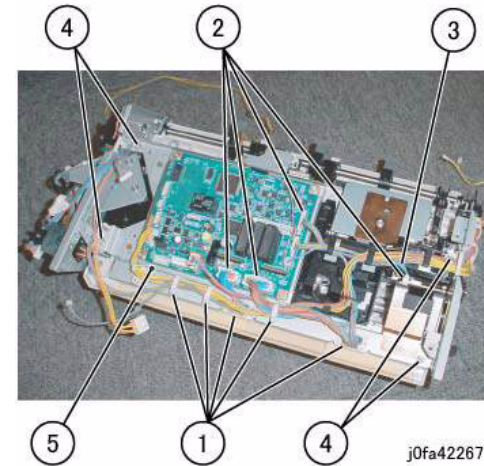

Figure 2 Removing the Bottom Plate
6. Remove the Bottom Plate (Figure 2):